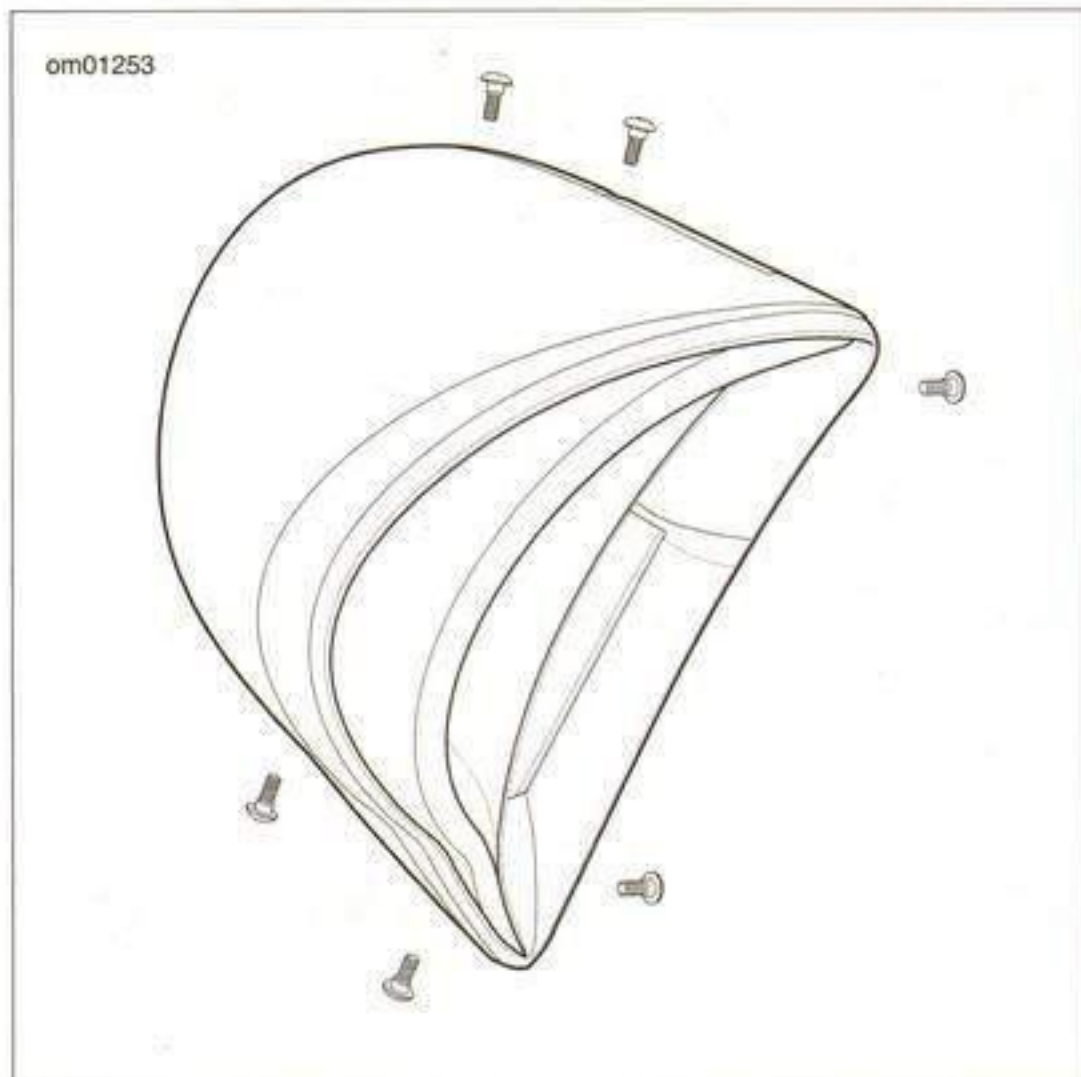

Figure 1-53. Outer Shroud Fasteners
1. See Figure 1-53. Remove six screws from the outer shroud of the right cowling. Remove the outer shroud.